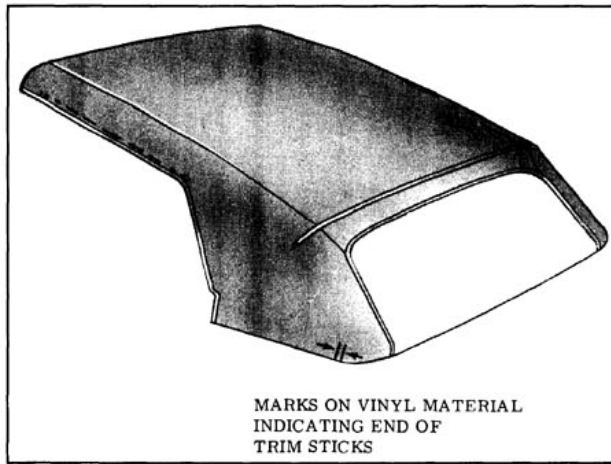

Fig. 16-130 Marking Top Material
12. Using a pencil, mark both ends of rear and rear quarter trim sticks on vinyl surface of top material. (Fig. 16-130) Reference marks